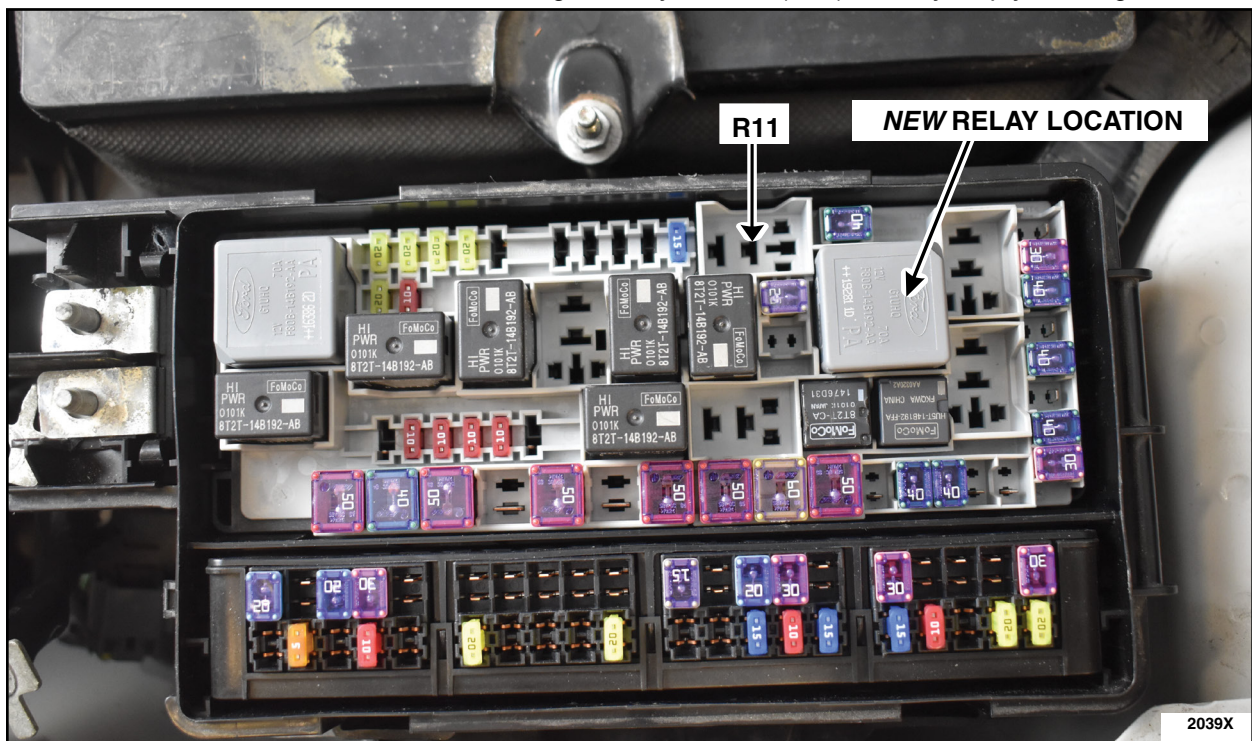

FIGURE 16
14. Install the remaining fuses and relays with the exception of the original cooling fan relay R11 location, which should have been discarded. The original relay location (R11) will stay empty. See Figure 16.